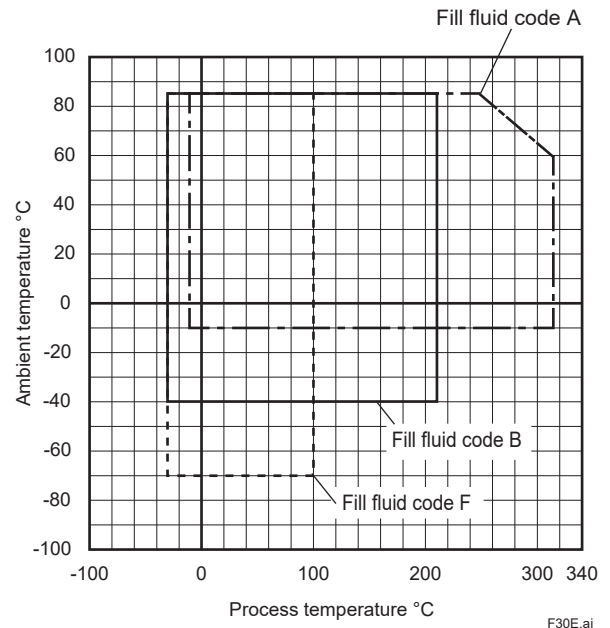

Figure 1g. Ambient Temperature and Process Temperature (Fill fluid: silicone oil for general and low temperature use)
- *7: See figure 1g and 1h 'Ambient Temperature and Process Temperature.'
- *5: See figure 1g and 1h 'Ambient Temperature and Process Temperature.'